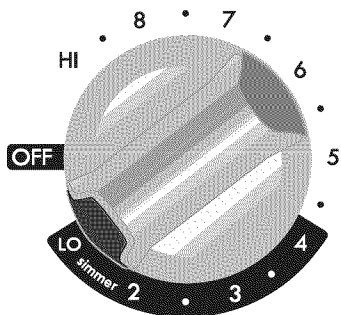

Figure 2
3. Turn the surface control knob to within the “Simmer Select” dark band **LO-2-3-4** (Figure 2).